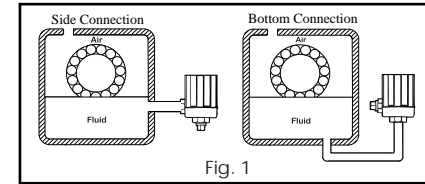

Fig. 1
3. Connect lower casting to bearing chamber either through the side connection or the bottom connection. (Fig. 1) Use thread compound on threaded areas, except for supplied plug.